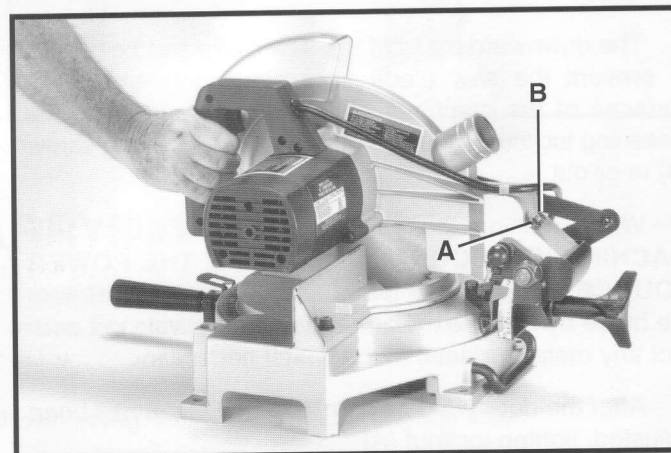

Fig. 28A
1. Loosen locknut (A) Fig. 28A, and turn screw (B) clockwise to increase or counterclockwise to decrease the spring tension. After the spring tension has been adjusted, tighten locknut (A).